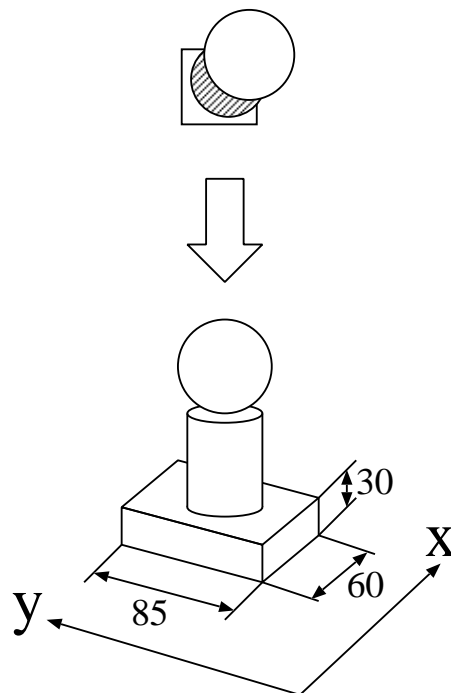

Fig 4: Object's arrangement
[**Technical Course**] In this course, the robot has to deliver three different objects to its goals. A free ball [2] is also given for each player and the same rule applies to the free ball in the challenge course. Balls [3], Empty cans [4] and Soap boxes [5] will be scattered in the field. In one area of the field, a soap box, an empty cans and a ball are placed on top of each other (See Figure 4(d)). Participating entries for the Technical course can avail of additional points by introducing/performing a "Technical Theme" [6]. The points will be based on the difficulty of their theme.
[**Challenge Course**] The arrangement of the balls is shown in Fig. 4(a). There are eight (8) regions separated by dashed line. The balls in each of the region will be placed randomly.
[**Technical Course**] There are fifteen (15) different objects in the course. Seven (7) tennis balls, four (4) empty cans, and four (4) soap boxes. The arrangement of the objects are divided into pattern area and random area. These areas are depicted in Fig. 4(c).
There are a total of seven (7) objects in this area [Three (3) tennis balls, two (2) empty cans, and two (2) soap boxes]. The pattern plate [ABCD] (as shown in Fig. 4(c)) is used for arranging the 7 objects in it. These objects will be arranged in one of the 4 Possible patterns in the rectangular Plate ABCD. This pattern will be decided through a lottery. When the objects are arranged on the plate (Fig.4(b)), one of the corner points (A,B,C,D) is being fixed at point Q (see Fig. 4(c)). In the case of B or D, the pattern plate is turned face down. Objects (balls, box, and cans) will be placed in the orifice of the plate. The soap box will be placed where its smallest surface is attached to the table and the largest surface is parallel to the y-axis in Fig. 4(c).
on top of each other, which is being referred to as “TOWER” (see Fig. 4(d)).
The different objects will be placed within the five (5) specified area (rectangle frame) as shown in Fig. 4(c). And the placement area of each object will be decided through a lottery.